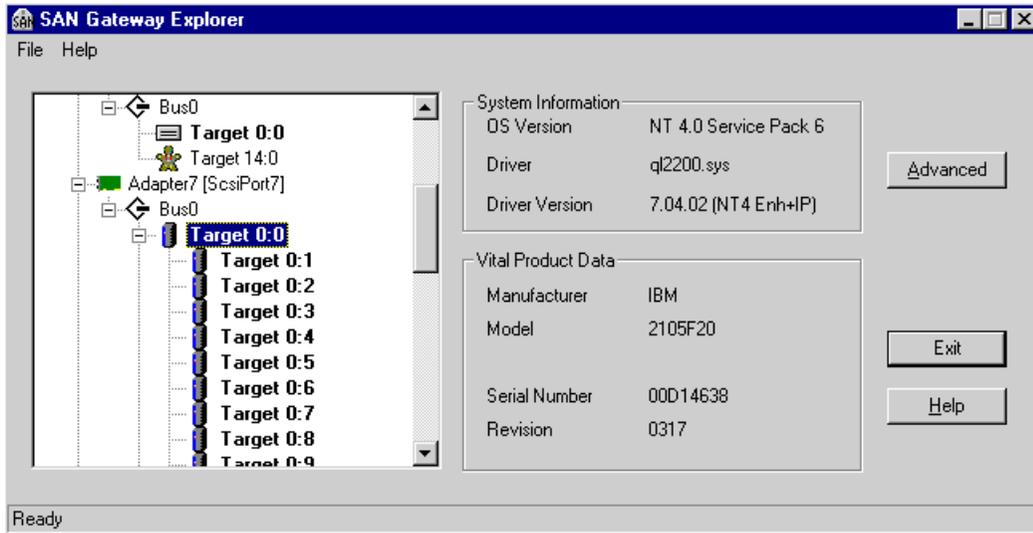

Figure 42. SAN Explorer view after migration
4. Open SAN Explorer. The view should look similar to Figure 42.